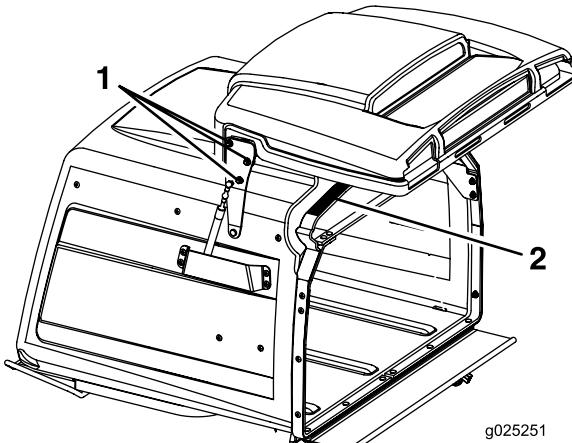

Figure 60
3. Loosen the six door hinge nuts (Figure 60).
4. Open the door and place a 3/8 inch rubber strip or 3/8 inch diameter hose between the hopper and the hopper door (Figure 60).